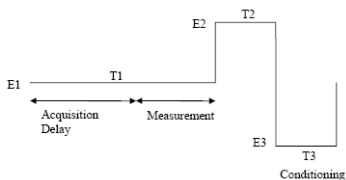

Fig 7: Pulse mode
Defines the duration of the interval for which the *E2 Potential* (*E3 Potential*, *E4 Potential*) will be set. The field is only informative as the value can not be sent to the detector (limitation of the detector firmware). Whole measurement procedure performed during the Pulse mode is described by the **Fig 7** on pg **11**.
**Note:** The potentials set during the T2, T3 and T4 time intervals are used to renew the surface of the electrodes. The *E4 Potential* and *E4 Pulse Width* stages are not described on the **Fig 7** on pg **11**.